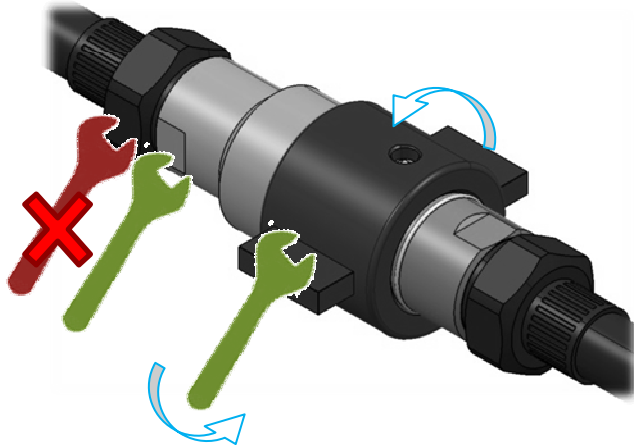

Fig. 1
- Loosen the fixing ring nut of the female coupling, with spanner and counter spanner, making sure not to intervene on the pipe connection of the female coupling (fig. 1).